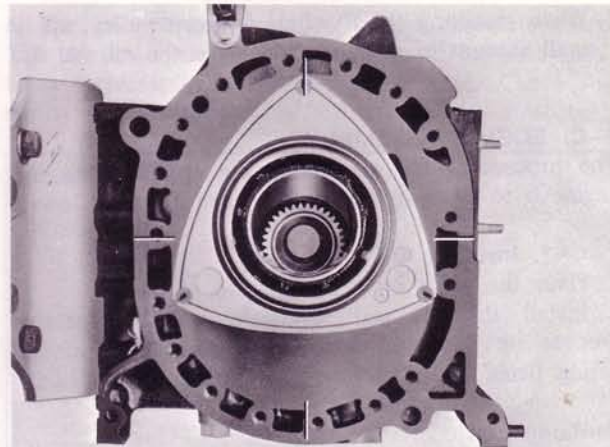

Fig. 1-63 Positioning front rotor
5. Mesh the internal gear and stationary gear so that one of the rotor apexes is set to any one of the four places shown in Fig. 1-63, and remove the used "O" ring.